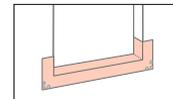

fig. 8
- Fold down on to the face of the exterior wall, it will be necessary to use mechanical fasteners to hold the corners against the wall at the flexed corners. Do not cut or tear flashing tape. **(fig. 8)**